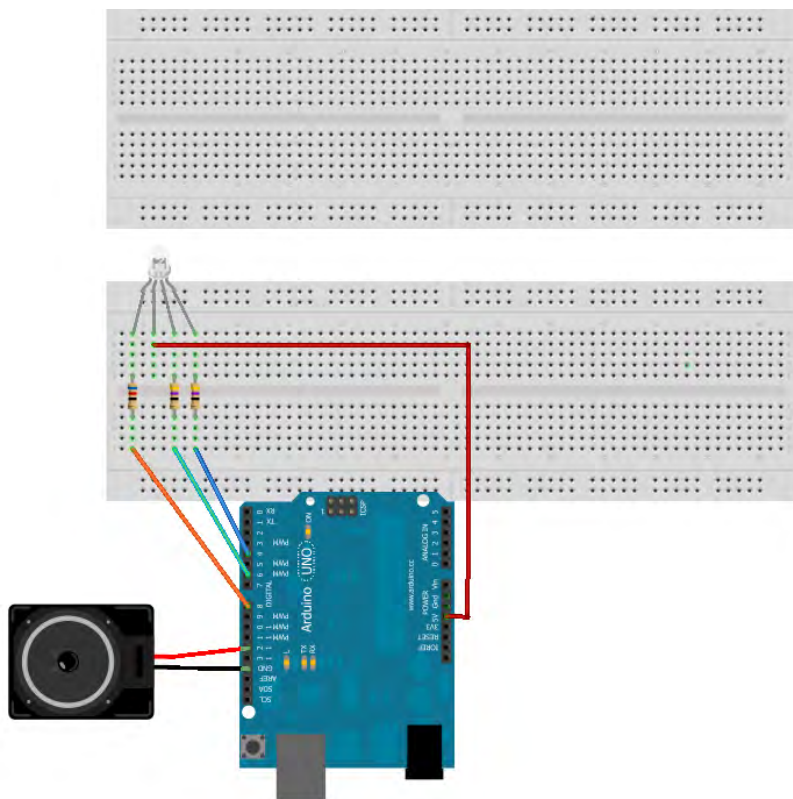

Figure 4-3. *Step three.*
3. **Add an audio speaker for additional fun.** Connect the speaker's black wire to GND on Arduino, and the speaker's red wire to Arduino pin 8. The schematic looks something like Figure 4-3.